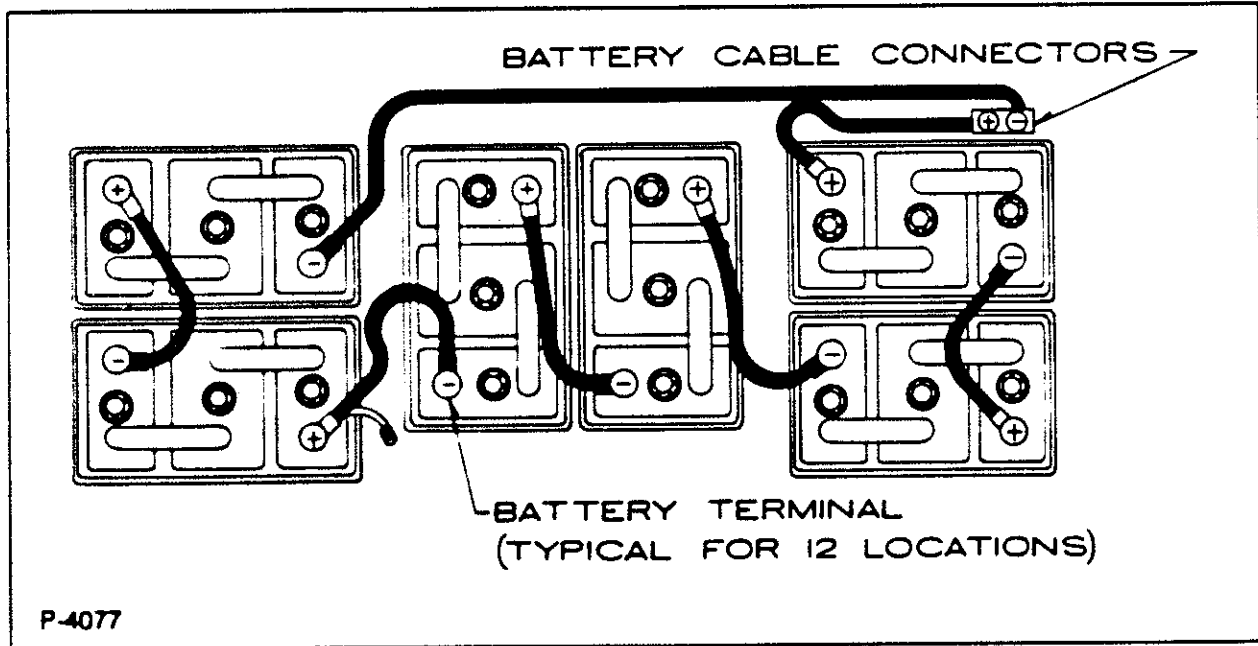

Figure 5
2. Make sure the battery cable connectors are plugged together. See Figure 5 and 6. The battery condition meter will show the battery charge. If the batteries are not fully charged, follow the procedures listed below.